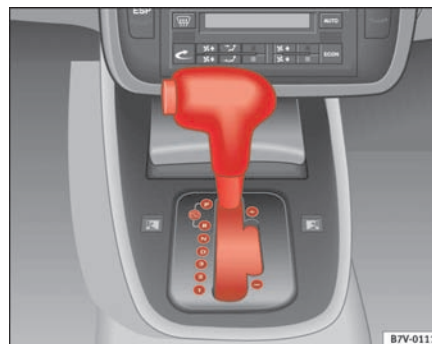

Fig. 128 Section of centre console: selector lever with lock button
- Press and hold the brake pedal and press the selector lever lock on the left of the selector lever at the same time ⇒ page 166, fig. 128.
- Press and hold the lock button (button on the knob of the selector lever) ⇒ page 166, fig. 128, select gear position (**R**, **D** or **S**).